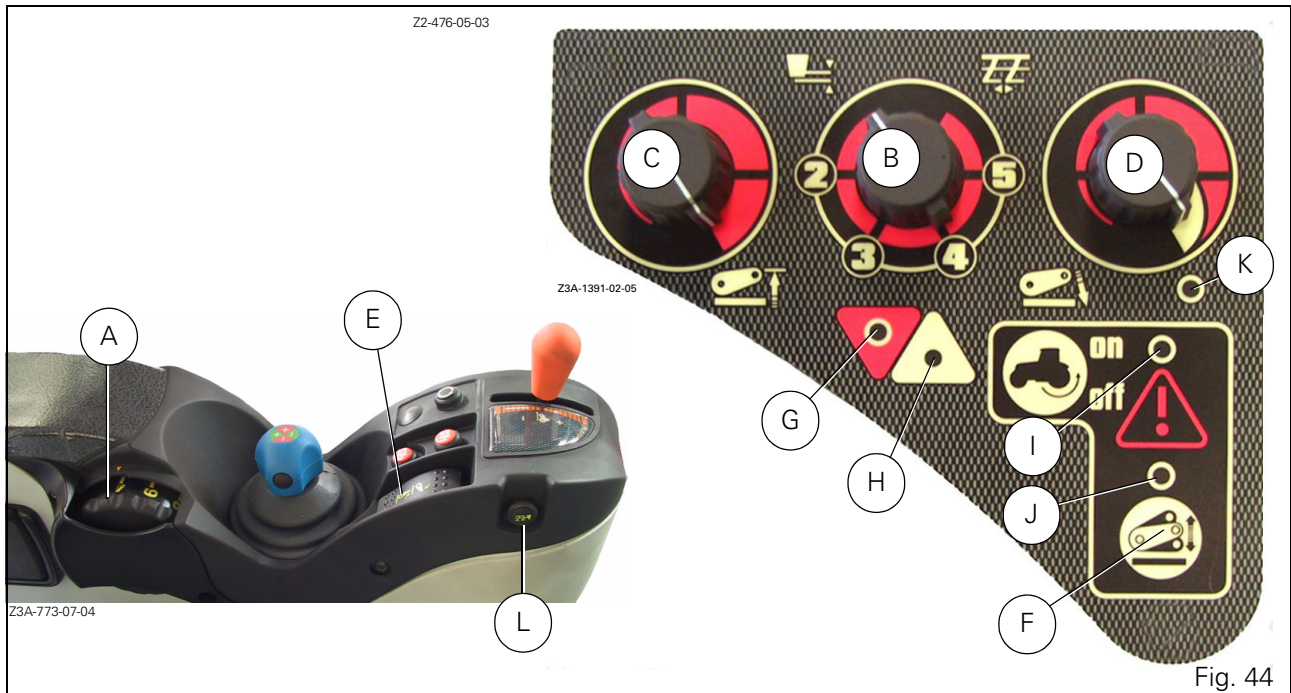

Fig. 44
- Select the minimum position with the knob (B Fig. 44).
- Adjust the maximum linkage height according to the transport implement using the height setting knob (C). Start from minimum position.
- Move the knob (D) to position 1 (padlock).